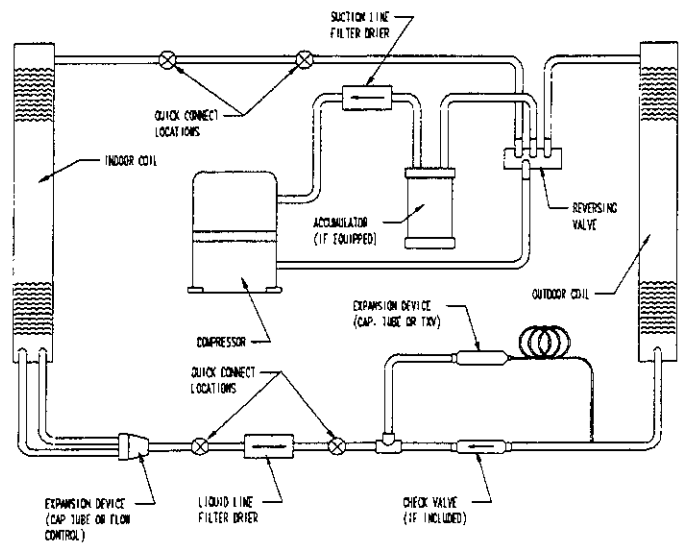

Figure 3 — Typical Split System Heat Pump Filter Drier Locations
4. Change capacitor and rewire. (See Figure 3 on page 2.)